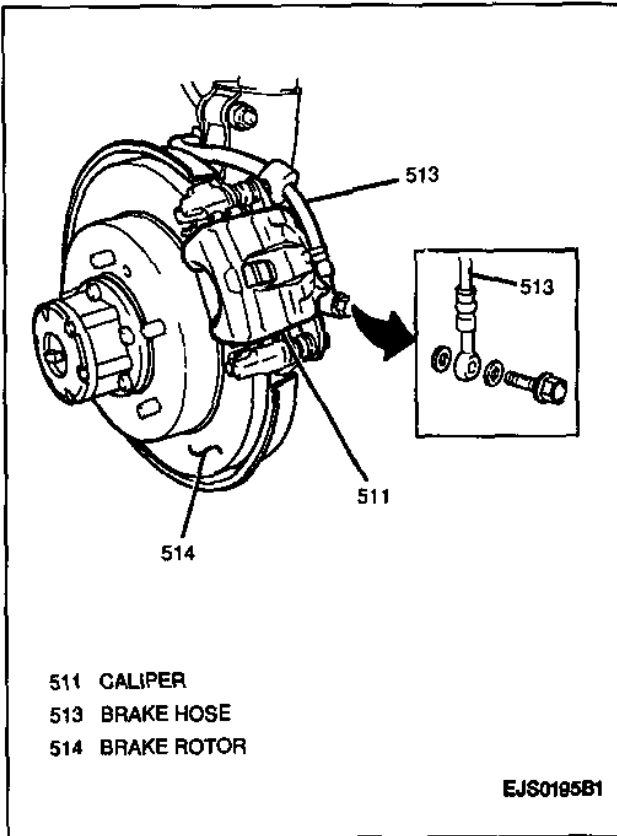

Figure 5—Brake Hose-to-Caliper Connection
5. Brake hose union bolt (Figure 5). Place a container beneath brake hose to catch escaping brake fluid. Discard the two union fitting washers.